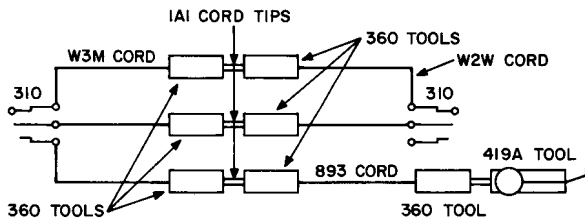

Fig. 2—
2.14 W3M cord, equipped with a 310 plug and three 360 tools (3W4B cord). A W2W cord, 6 feet long, equipped with a 310 plug and two 360 tools (2W17A cord). One 893 cord, 6 feet long, with a 360 tool at each end (1W13B cord). One 419A tool and three 141 cord tips. Connect as shown in Fig. 2 (for connecting test set to A relay and commutator segment of trunk finder when the test jack is not located on trunk finder).